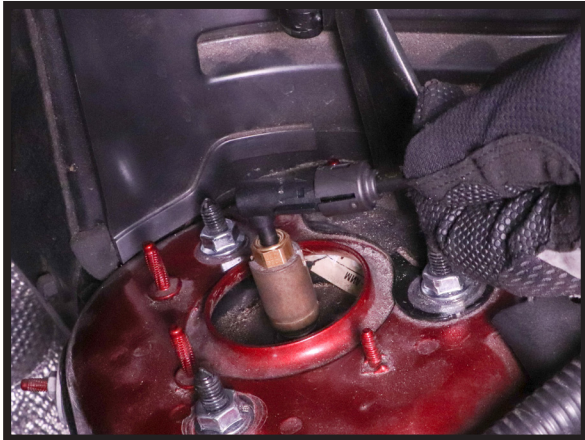

FIGURE 2
4. REMOVE THE AIR LINE FROM THE AIR STRUT. (FIGURES 2,3)